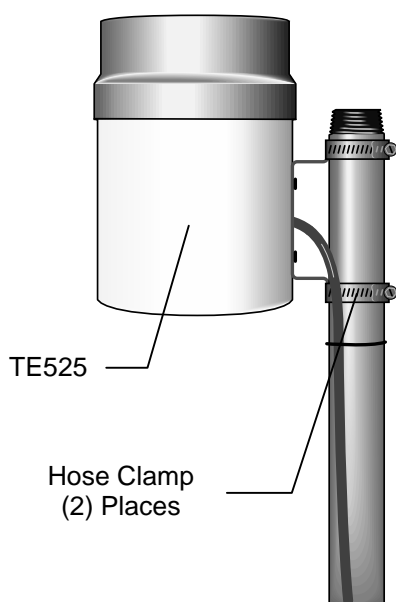

FIGURE 4.13-1. TE525 Texas Electronics Rain Gage
1. Mount the rain gage to a vertical pipe as shown in Figure 4.13-1. Mounting the gage directly to the tripod or tower is not recommended.